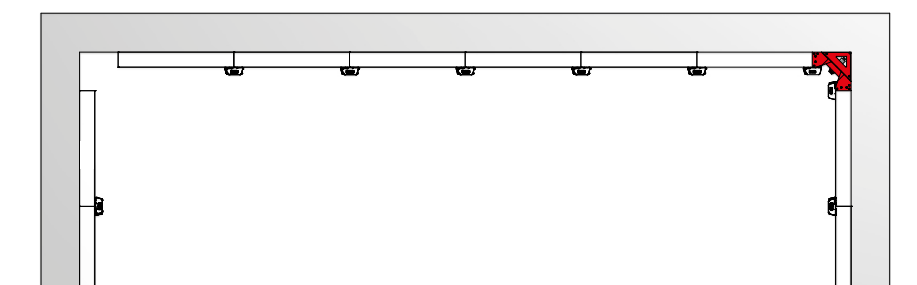

Fig. 31.3
3. Lift the stripping corners upwards, then strip the panels (Fig. 31.3).